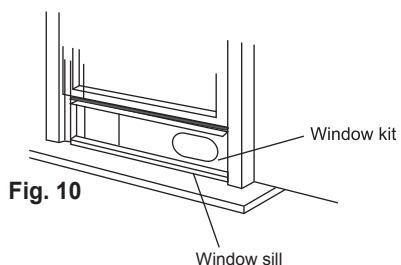

Fig. 10
3. Cut the foam seal (adhesive type) to the proper length and attach it on the top of the window. See Fig. 10.